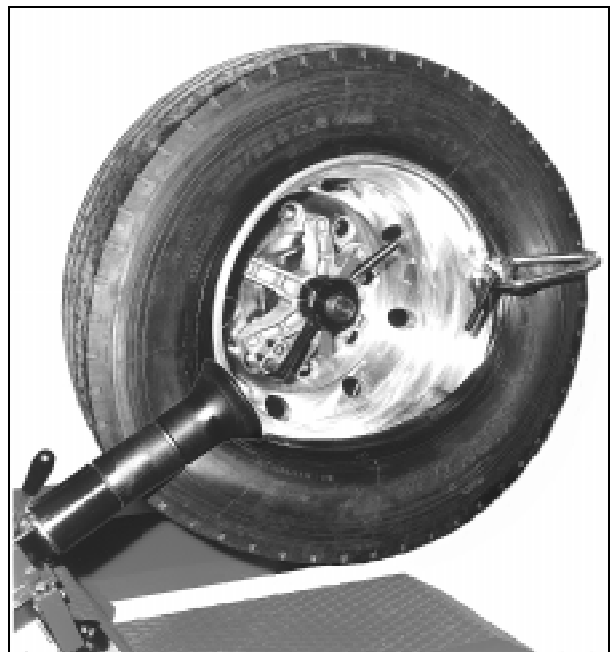

Fig.33
**D.** Turn the chuck clockwise until the tire is completely mounted (Fig.33).